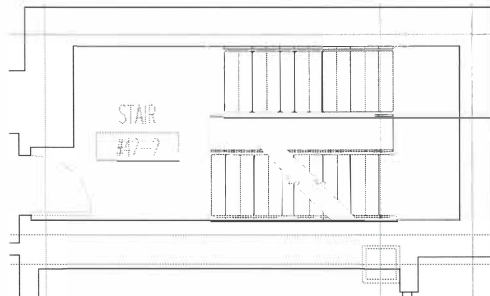

Figure 8–17
2. Zoom in on the stairway in the upper right corner, as shown in Figure 8–17.